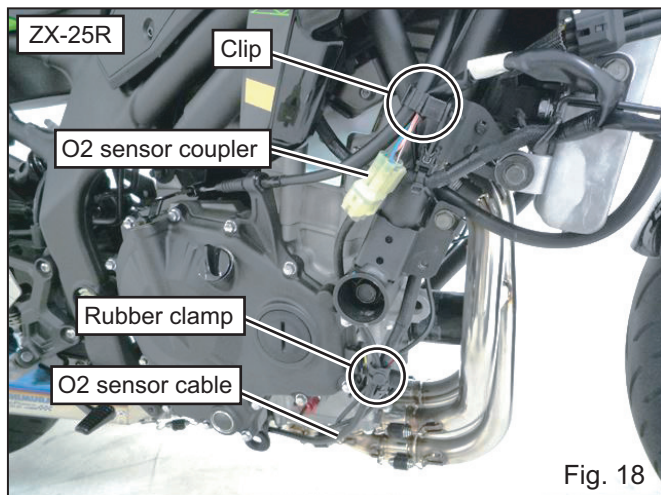

Fig. 18
- 12) Take off O2 sensor coupler at vehicle side from bracket and connect it with O2 sensor coupler at exhaust cable away from exhaust pipe or engine, and fasten it with clips and rubber clamp. (See Fig. 18 & 19)